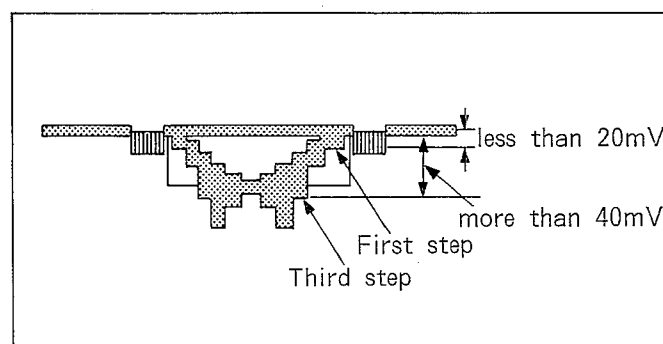

Fig. C30
- (1) Readjust the ALC to 700mV. But do not write the data into EEPROM.(Refer to ALC ADJUSTMENT)
- (2) Aim the camera at Gray Scale Chart.
- (3) Cover the lens with colour Temperature conversion filter(C8:VFK0547).
- (4) Connect the oscilloscope to VIDEO OUT.
- (5) Set the command to "01".
- (6) Set the address to "19".
- (7) Push the "INC" key or "DEC" key so that first step of gray scale chart becomes less than 20mV and 3rd step of gray scale chart becomes more than 40mV as shown in Fig.C30.
- (8) Set the command to "02".
- (9) Set the address to "0C".
- (10) Push the "SET" key in order to unit the data to EEPROM.
- (11) Return the ALC to 300mV. Push the "SHIFT 1" key and "1" key together, ALC will return to original level (300mV) if you did not change ALC.